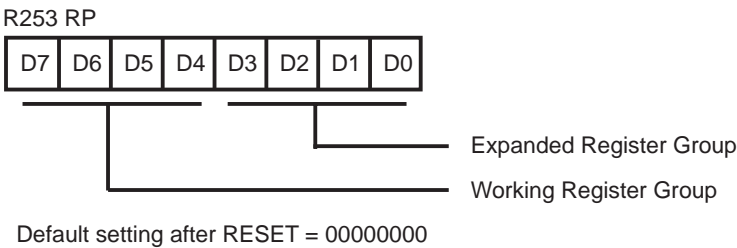

Figure 24. Register Pointer Register
**Register File.** The register file consists of three I/O port registers, 236/125 general-purpose registers, 15 control and status registers, and three system configuration registers in the expanded register group. The instructions can access registers directly or indirectly through an 8-bit address field. This allows a short 4-bit register address using the Register Pointer (Figure 24). In the 4-bit mode, the register file is divided into 16 working register groups, each